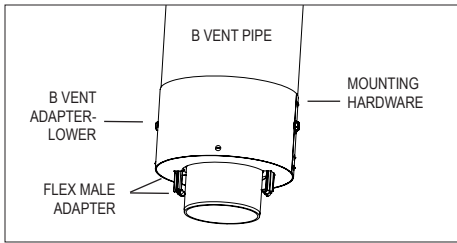

Figure 13
10. Install *B Vent Adapter-Lower*. (*Flex Male Adapter* should protrude beyond per **Fig.13**)
11. Install *B Vent Adapter- Lower*. (*Flex Male Adapter* should protrude beyond per **Fig.13**)